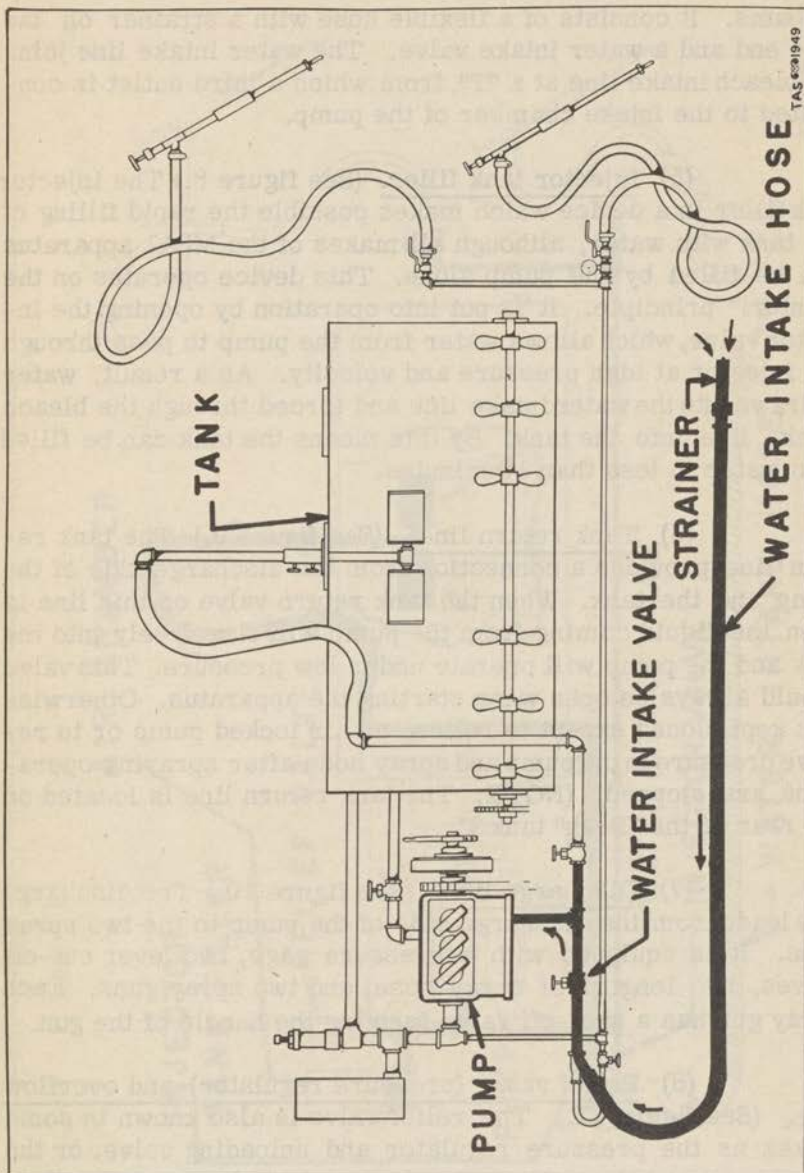

Figure 7. Water Intake Line.
(4) Water intake line. (See figure 7.) The water intake line is used to load water into the tank from ponds and